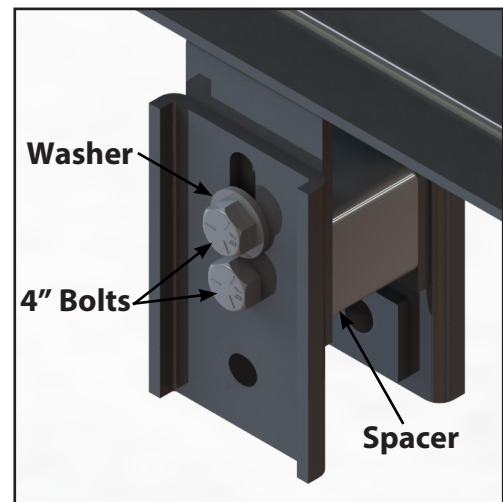
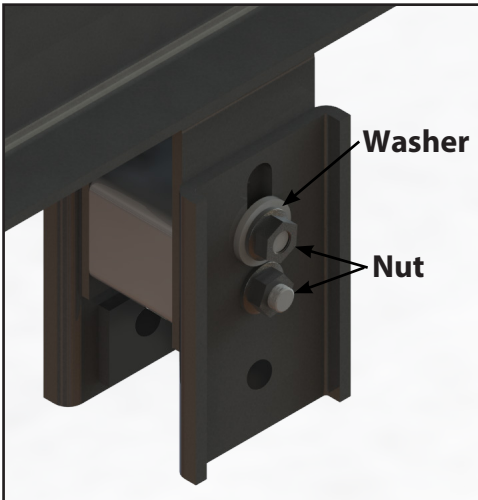

Fig.3
Fig.4
- 1. Place the spring hanger plates on the outside of the spring hanger. Insert the 1.875" x 3" x 2" spacer into the center of the hanger. Align the center holes of the plates with the bottom holes of the hanger. Insert a 9/16" x 4" bolt through the plates, the spacer and the hanger (Fig. 3). Install a nut on the back side.
- 2. Use a 9/16" x 4" bolt and a washer to go through the upper slot, the hanger and the spacer. Install a washer and a nut on the back side of the hanger and plate assembly (Fig. 3 and Fig. 4).